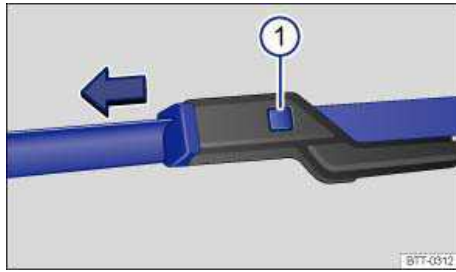

Fig. 156 Changing the windshield wiper blades.
- Press and hold the release button ⇒ fig. 156 \(1\).